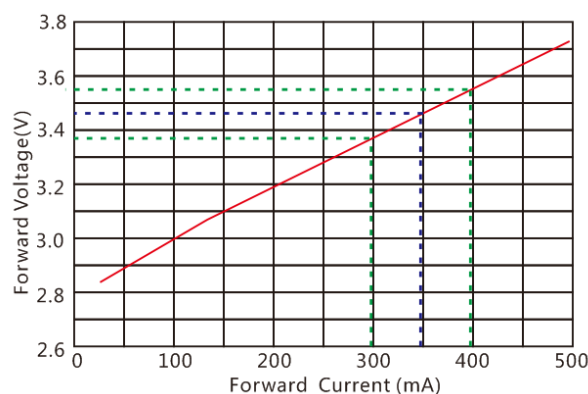

Figure 3.27 LED lamp V-I curve
A LED lightbar has 10 piece LEDs in series, each single LED I-V curve showed in Figure 3.27.
3. According to the V-I curve in Figure 3.27, the tangent line slope of the working point is the operating point resistance  $R_d$ ,